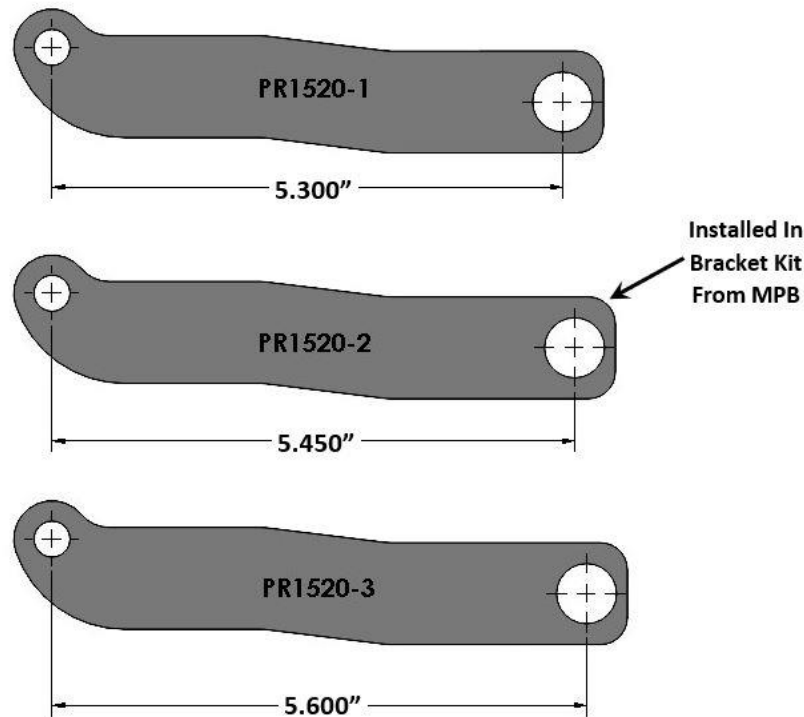

Figure 5 – Push Rod Lengths
5. With the booster assembly temporarily attached to the firewall, determine what length pushrod works best for your application. We send the booster assembly with 3 different lengths of pushrods. As the assembly arrives to you, it has the mid length pushrod installed (**PR1520-2**, 5.450" length). There are two additional pushrods supplied so that you can fine tune the brake pedal placement to your liking. Simply uninstall the mid length pushrod and change to the short or long pushrod. The short pushrod (**PR1520-1**, 5.300" length) will lower your brake pedal approximately .900". And the long pushrod (**PR1520-3**, 5.600" length) will raise your brake pedal approximately .900". Refer to Figure 5 below for reference.